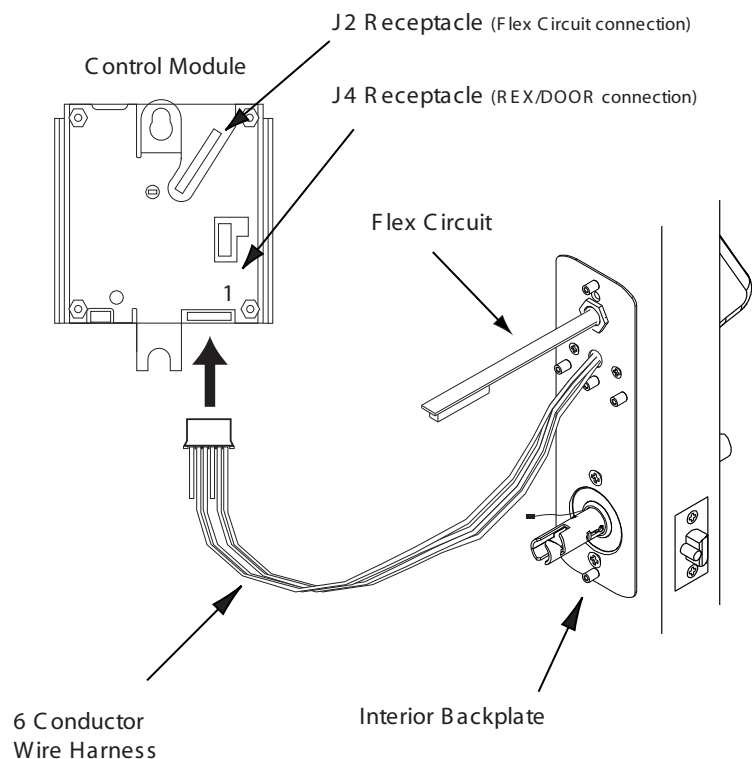

Figure 8A
2. Connect the red/grey wires from Control Module to the red/grey wires from the Lockset. At this time, plug in the optional request to exit (REX)/ Door Switch cable. (See the chart below and Figure 8A.)